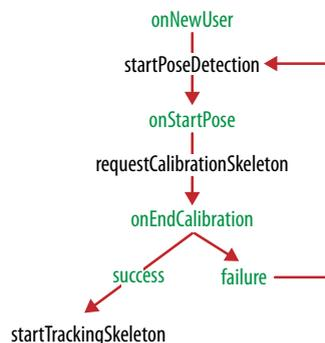

Figure 4-1. Flow of OpenNI actions and callbacks needed to initiate joint tracking.
Before we get into the nitty-gritty of code, I want to give you an overall picture of how calibration works (Figure 4-1). The diagram shows the flow of callbacks triggered by OpenNI and the actions that we have to take within them to continue the calibration process. I'll briefly explain the complete picture and then we'll dive into the actual code within our sketch to see how the whole system works in practice.
- ❷. If calibration was successful, then we go into the first branch of the `if` statement. There, we kick off skeleton tracking by calling `kinect.startTrackingSkeleton(userId)`. After calling that function, joint position data will become available for our user within `draw`. At this point, we have completed our journey through the calibration process and the attendant callback functions. They won't get triggered again during the running of the sketch unless a new user appears on the scene needing calibration (or our first user leaves the scene and needs to be recalibrated). Let's turn our attention back to `draw` to see how to work with the skeleton data after it finally becomes accessible.
3. If calibration failed, `succeeded` will be false, and we'll go into the `else` branch of the `if` statement. What we do there is restart the calibration process. We call `kinect.startPoseDetection("Psi", userId)` to tell OpenNI to restart the process of checking to see if the user is in the calibration pose. If you look back at Figure 4-1, you can see that, in the case of failure, the calibration process becomes a loop. It jumps back to the pose detection phase and then continues again. When the user assumes the calibration pose (or continues to hold it), our `onStartPose` function will get called again, and if we keep the process going, eventually `onEndCalibration` will be called as well. However, if we don't instruct the user to move around or otherwise attempt to correct the problem, it is unlikely that the calibration process will achieve a different result. For that reason, it is once again a good idea to give users some visual feedback or instructions to make sure that they are fully visible within the depth image and standing still so that the calibration process has a chance to succeed.